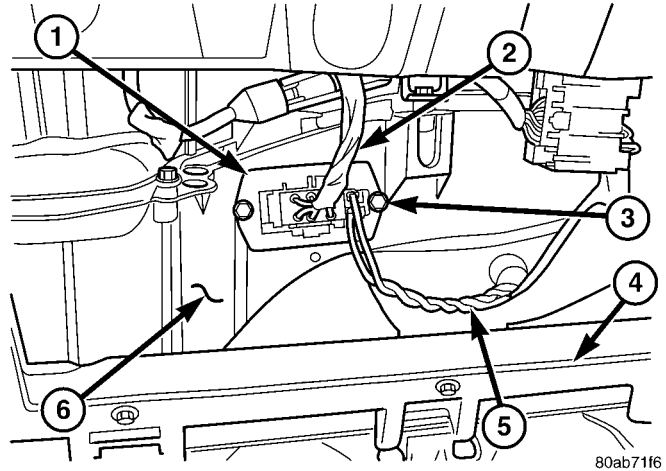

Fig. 20 Blower Motor Resistor
- (1) Disconnect and isolate the negative battery cable.
- (2) Remove the glove box from the instrument panel (Refer to 23 - BODY/INSTRUMENT PANEL/GLOVE BOX - REMOVAL).
- (3) Disconnect the two wire harness connectors from the blower motor resistor (Fig. 20).
- (4) Remove the two screws that secure the blower motor resistor to the HVAC housing and remove the resistor.